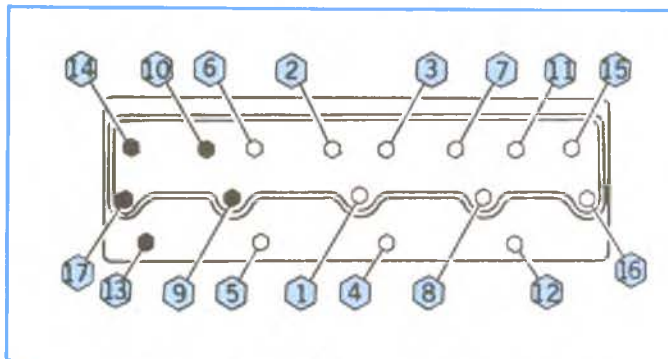

Figure 2-16, Cylinder Head Bolt Tightening Sequence.
10. In sequence, torque all bolts to 25 N.m. (20 ft. lb.). (Figure 2-16).
11. In sequence, re-torque all bolts to 65 N.m. (50 ft. lb.). (Figure 2-16).
12. In sequence, turn each bolt an additional 90 degrees ($\frac{1}{4}$ turn). This is to assure a more uniform bolt tension. (Figure 2-16).